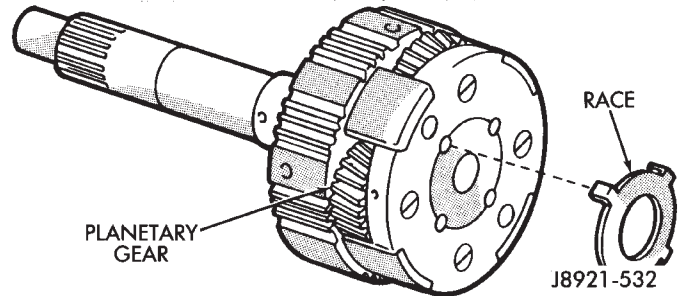

Fig. 12 Remove Planetary Gear Race
(14) Remove race from planetary gear (Fig. 12).